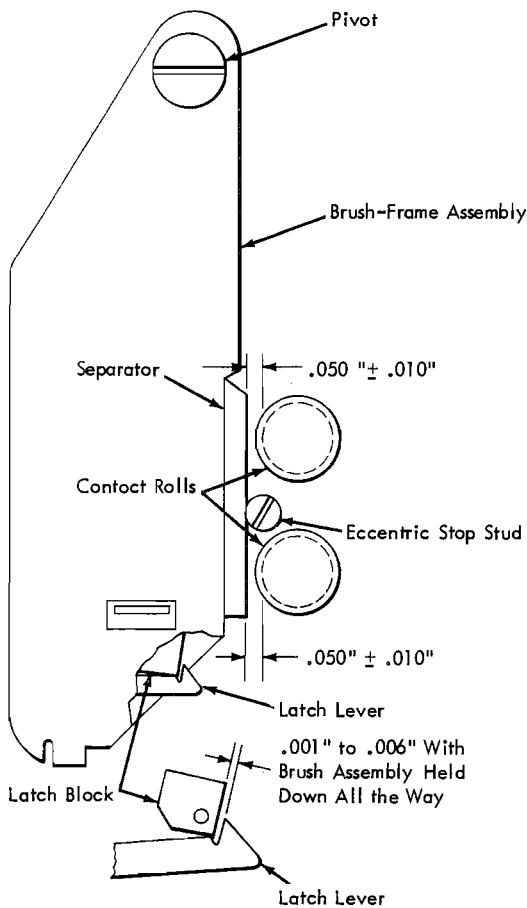

Figure 68. Carriage-Tape Brush Assembly Adjustments
6. Adjust the brush-separator eccentric stop stud for .050" ($\pm .010$ ") clearance between the brush separator and the contact rolls at the scribed line (Figure 68).
7. Adjust the latch block to obtain .001" to .006" clearance between the latch pawl and latch block with the brush assembly fully depressed (Figure 68).